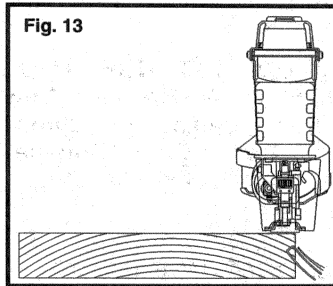

Fig. 13
22. DO NOT DRIVE FASTENERS CLOSE to the edge of the workpiece. The workpiece is likely to split allowing the fastener to fly free or ricochet causing personal injury. Fig. 13.